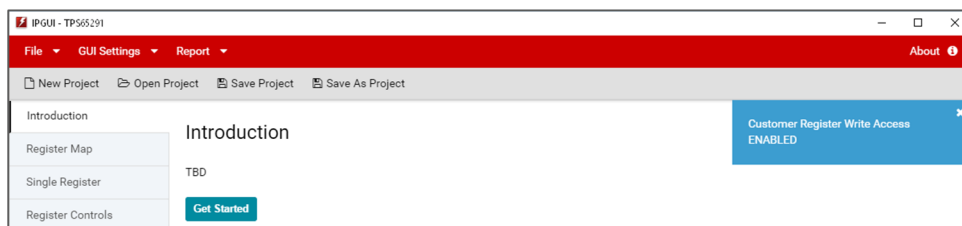

Figure 19. Successful Write Access to TPS65291 Notification
- Verify that a blue notification appears stating that register write access is enabled as shown in Figure 19.